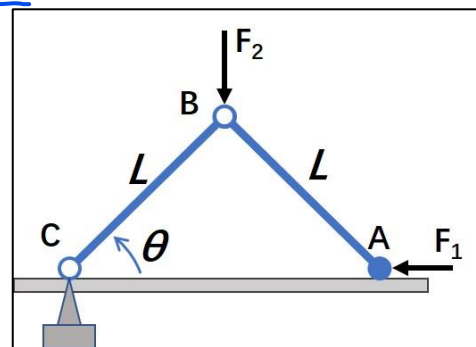

Figure 4
4. Using the principle of virtual work to determine the relation between force  $F_1$  and  $F_2$  when the two-member linkage is in static equilibrium. Joint C is pin constrained, A is rocker constrained, length of AB and BC is  $L$ , as shown in Figure 4. Neglect the weight of the members. (15')